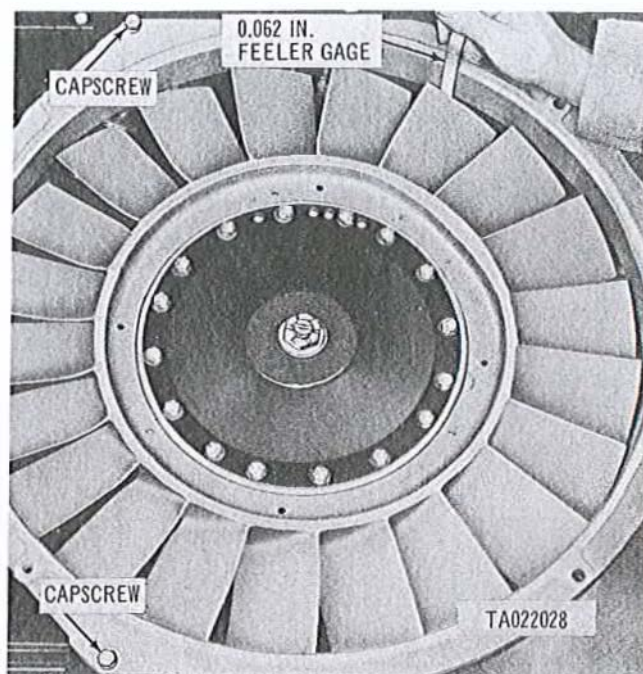

Figure 3-337. Checking cooling fan blade clearance.
e. With cooling fan shroud and fan housing installed, check clearance between end of each cooling fan blade and rim of cooling fan housing with feeler gage (fig. 3-337). Clearance must be 0.062 inch minimum. When clearance is not within limits loosen screws and shift housing as necessary until clearance is obtained.